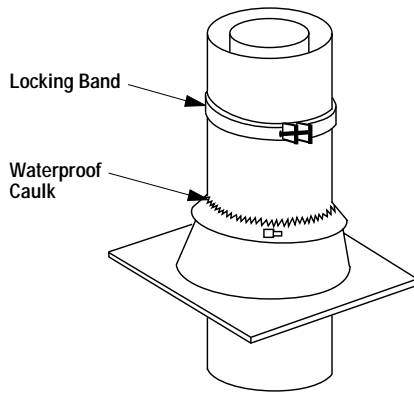

Figure 29
Step 8. The standard Security Chimneys FTF10 roof flashing assemblies include a storm collar. Slide the storm collar over outer chimney, rest on flashing spacers and align with top surface of flashing. Insert tab in slot, pull tight and bend tab back over slot. Seal storm collar to outer chimney with roof caulking or mastic around entire circumference of pipe. Also add extra roof caulking to the tab/slot area to seal completely against water penetration (Figure 29). Check all joints very carefully to ensure no water intrusion can take place.
Step 9. Security Chimneys locking bands, Model FLB, may be required if the chimney extends too high above the roof flashing. As a general rule, if the chimney extends more than 6' above the roof flashing, the use of locking bands is advisable to strengthen the chimney assembly. Align the locking band at the chimney joint. Locking bands wrap around pipe joints equally covering the joints of both pipe sections. Use the nut provided and TIGHTEN snugly. Do not overtighten as this might damage the chimney section (refer to Figure 29).